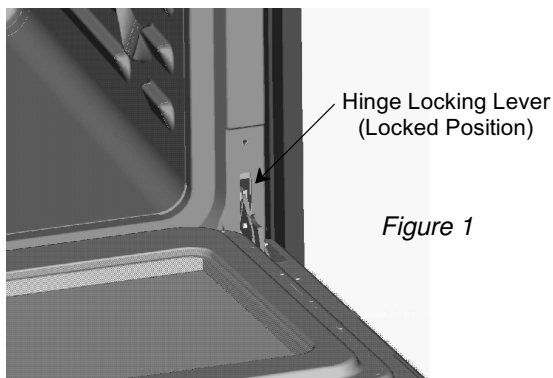
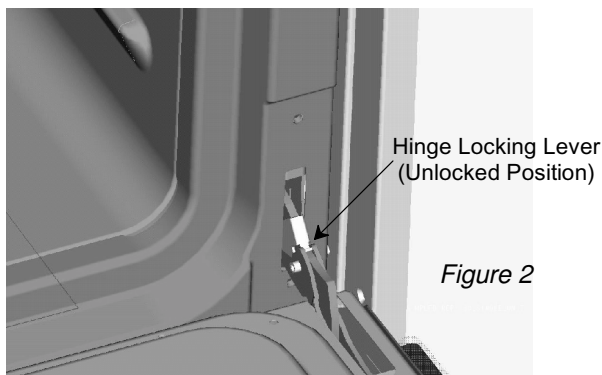
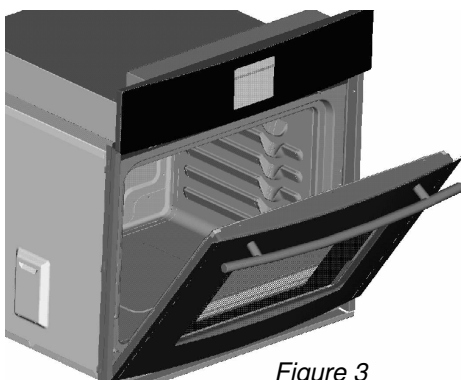

Figure 1
Figure 2
Figure 3
- Open oven door to the “Full Open” position (see Figure 1).
- Rotate hinge locking lever DOWN, to unlock hinge from the unit (see Figure 2).
- Close oven door to the “Removal” position (until it stops; see Figure 3).
- Once the hinge arms are resting on the hinge receiver pins (see Figure 3) open oven door slowly to the “Full Open” position (see Figure 2).
- Rotate hinge locking lever UP to the locked position to secure the oven door to the unit (see Figure 1).
NOTE: Make sure that hinge locking lever is rotated fully UP to the locked position as shown (see Figure 1) before closing oven door.
If hinge locking lever will not rotate fully UP to the locked position as shown (see Figure 1) then the hinge arm is not properly seated on the receiver. Rotate the hinge locking lever DOWN to the unlocked position (see Figure 2) and remove oven door as outlined in the Oven Door Removal procedure. Then replace the oven door as outlined in the Oven Door Replacement procedure, making sure that the hinge arm slots are fully seated on the horizontal pins in the hinge receiver.
- Once the hinge locking lever is rotated fully UP to the locked position (see Figure 1) close the oven door.